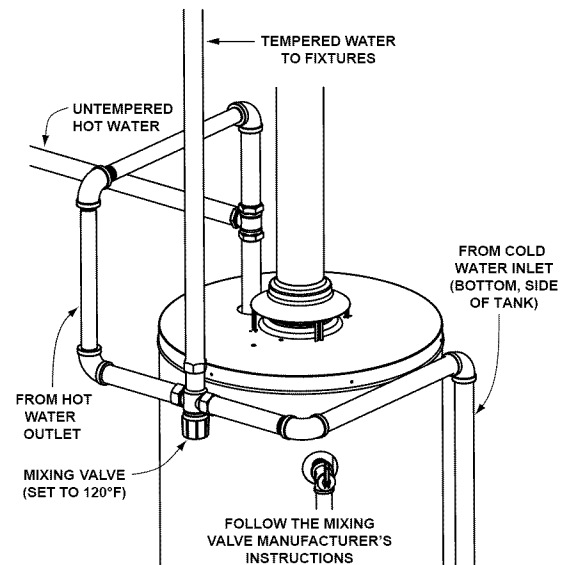

FIGURE 19.
3. The manufacturer of this water heater recommends installing a mixing valve or an anti-scald device in the domestic hot water line as shown in Figure 19. These valves reduce the point-of-use temperature of the water by mixing cold and hot water and are readily available for use.